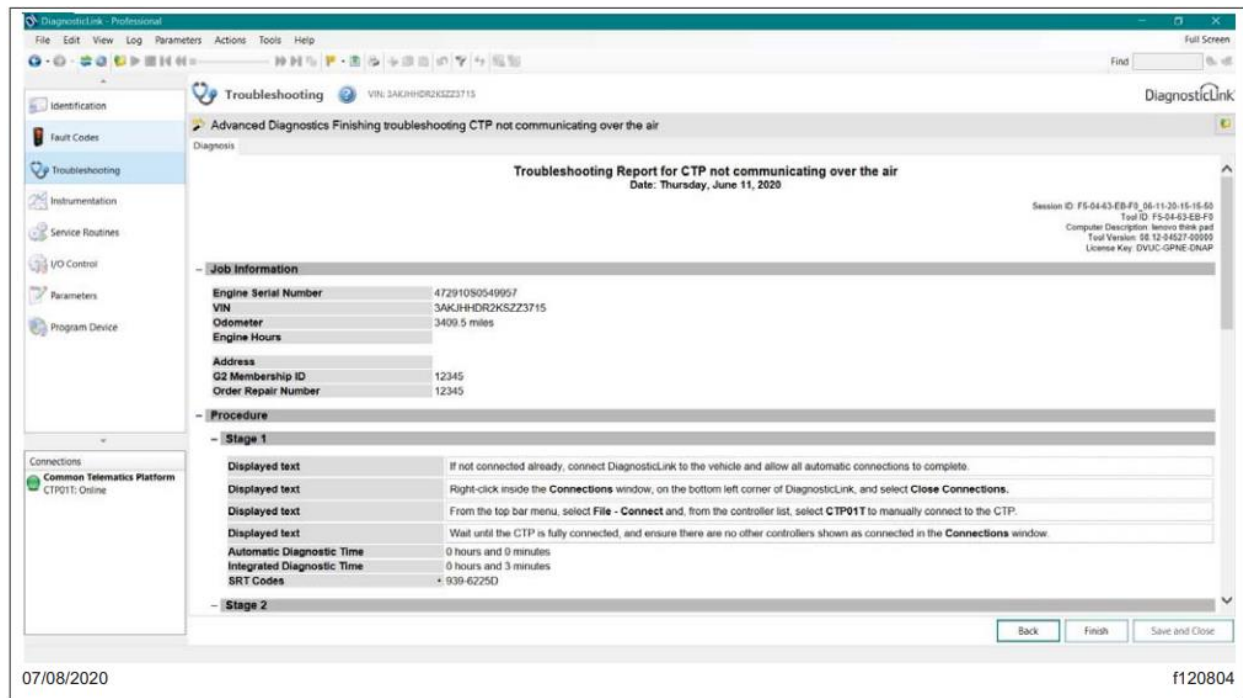
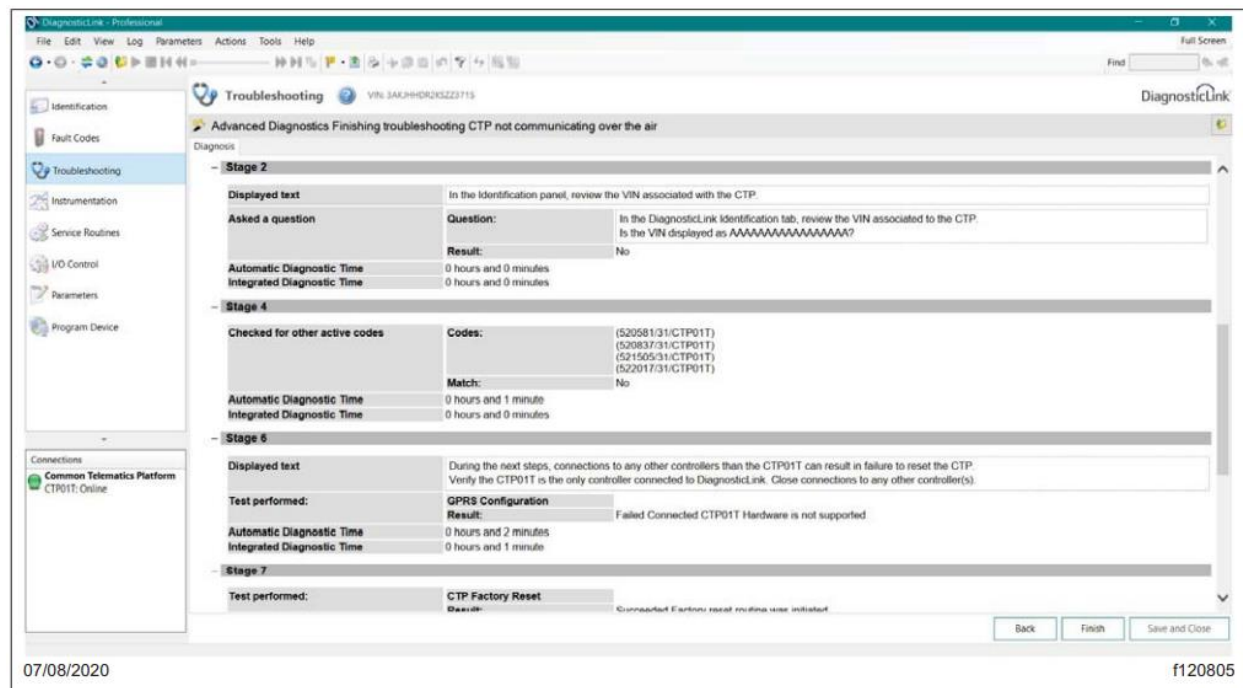
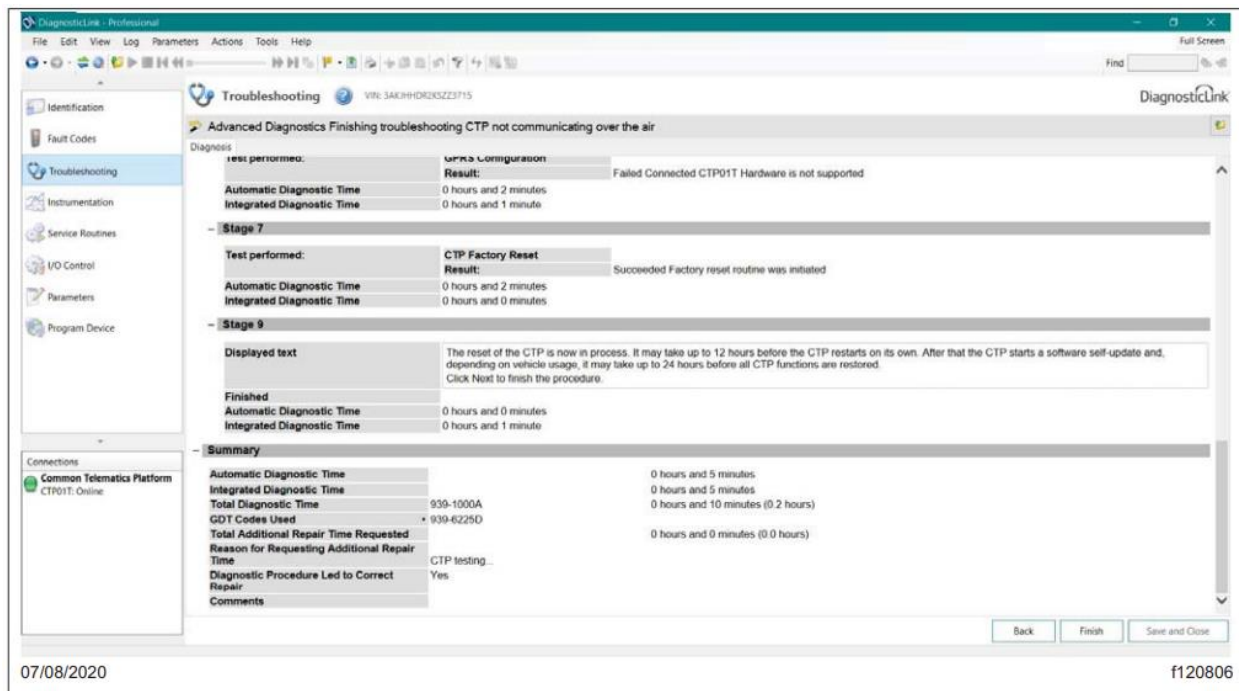

Fig. 11, Troubleshooting Report, Page 1
Fig. 12, Troubleshooting Report, Page 2
Fig. 13, Troubleshooting Report, Page 3
20. Review the report pages, a copy should be saved for your records, click 'Finish' to return to the 'Troubleshooting' screen, and complete the reset of the procedure. See Fig. 11, Fig. 12, and Fig. 13.